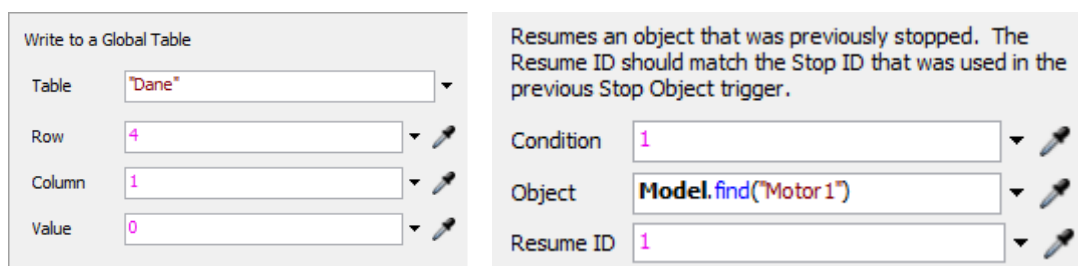

Fig. 30 Settings in the *Zeroing* and *Motor Resume* blocks
2. *Reset/Zerowanie ( Custom Code ): Data* → *Write to Global Table* → settings Fig. 30.
3. *Motor Resume (Custom Code): Control* → *Resume Object* → settings fig . 30.